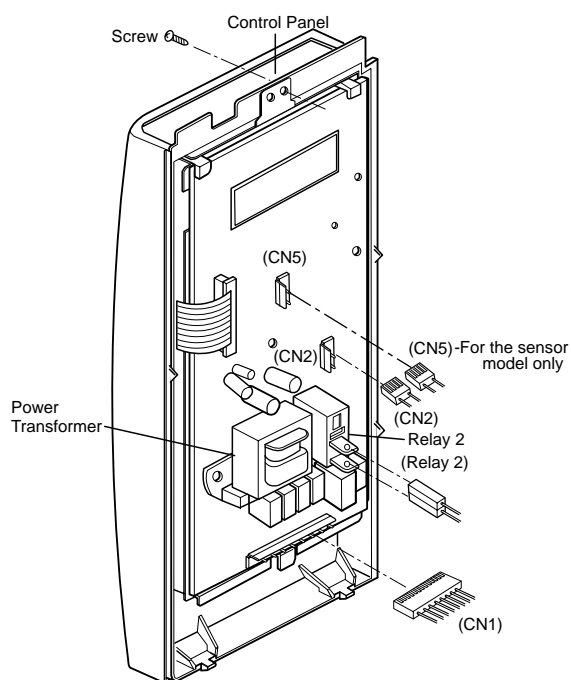

Figure 1
A. REMOVING POWER AND CONTROL CIRCUIT BOARD (Figures 1, 2 and 3)
- (1) Remove a screw securing the control panel assembly to the oven cavity.
- (2) Remove the control panel with pushing it upward.
- (3) Remove the connector (CN1) and wire leads (Relay6) from the circuit board.